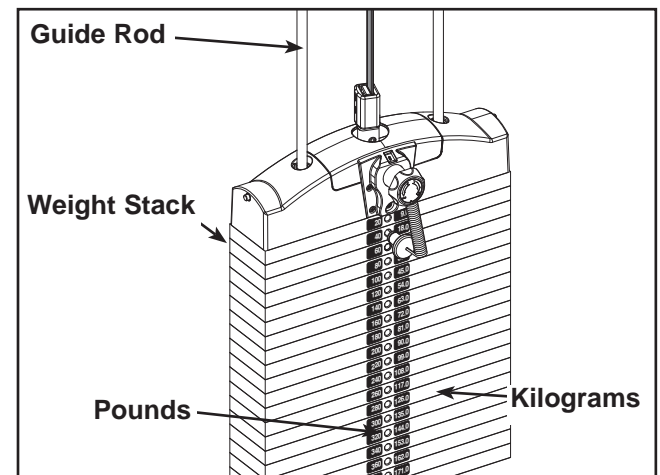

Figure 18
- E. Carefully remove front side, leaving decals adhering to weight plates. See Figure 18.